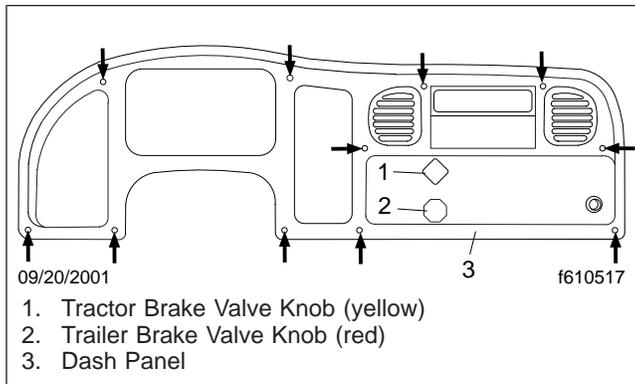

Fig. 1, Dash Trim Panel Screws (arrows)
4. Remove the screws from the dash trim panel and remove the panel; see Fig. 1.